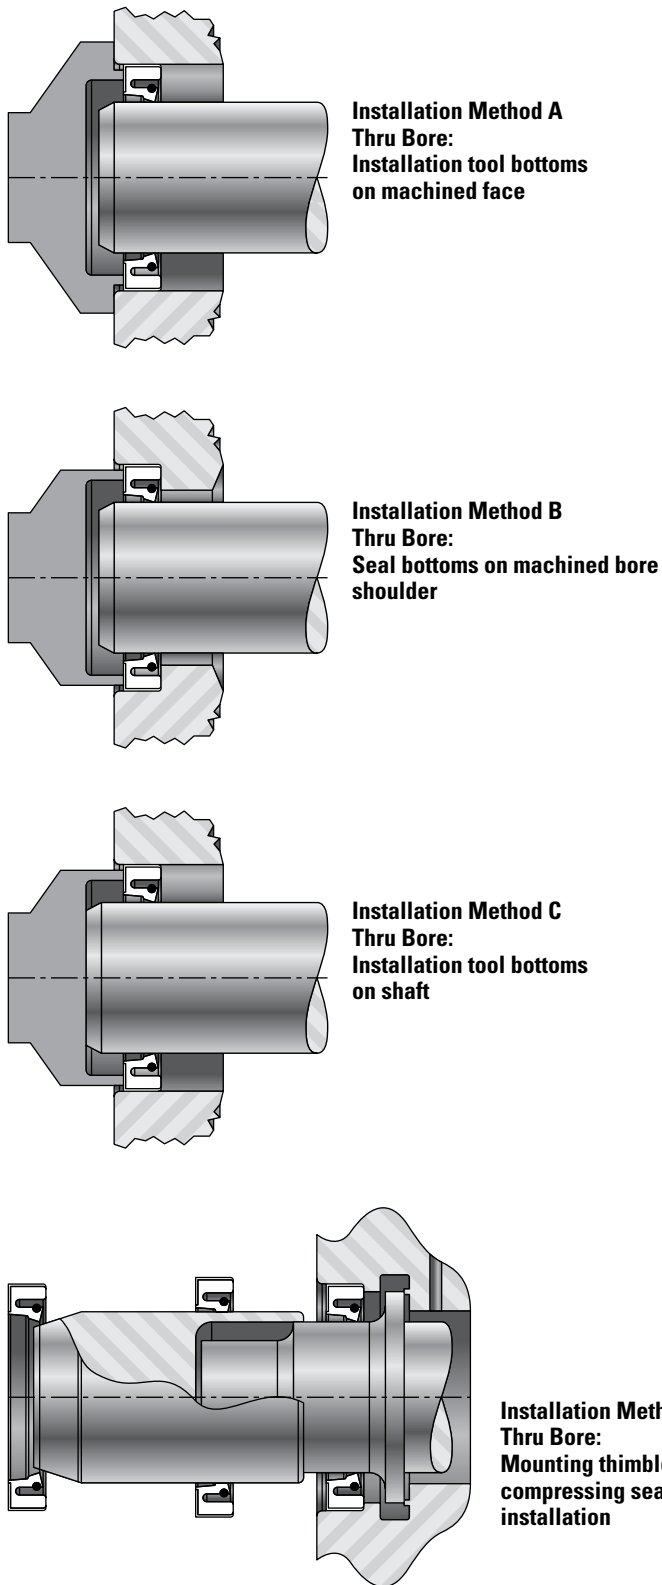

Fig. 61. Installation methods.
- When drive features such as keyways or splines are present, they must be covered using an installation tool similar to the one shown in Fig. 61, and using “Installation Method D” shown in Fig. 61. If the use of a tool is prohibited by the size of the shaft, use one of the following options:
Install the seal(s) using one of the proper installation methods shown in Fig 61. When using installation tooling, the diameter, or contact area, should not be more than 0.010 in. (0.254 mm) smaller than the bore diameter. If the use of an installation tool is prohibited by the size of the seal, then: